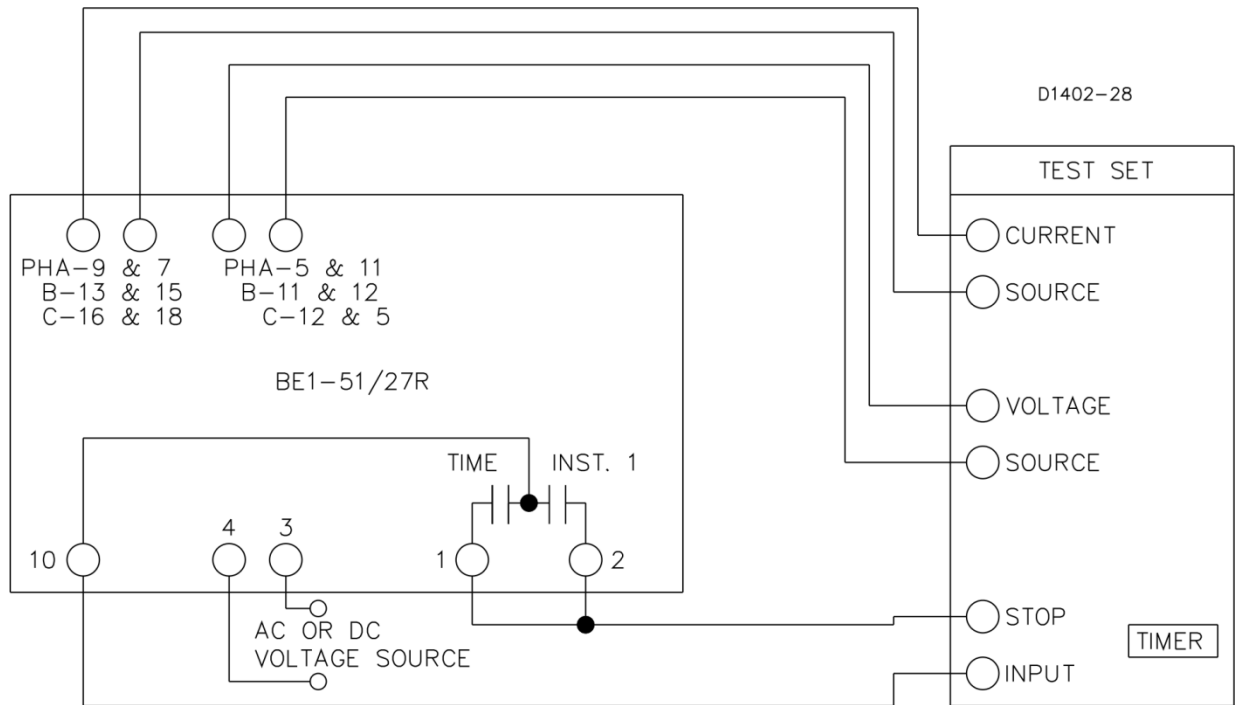

Figure 5-4. Test Setup for Sensing Input Type B or C (Three-Phase, Delta Configuration)
- (d) Sensing Input Type B or C (Three-Phase Sensing). Refer to Figure 5-4.
- (c) Sensing Input Type B, C, R, or S (Three-Phase Sensing). Remove the power and reconnect the input sensing to each of the remaining phases as shown in Figures 5-4 and 5-6, each time repeating Steps 1 through 10.